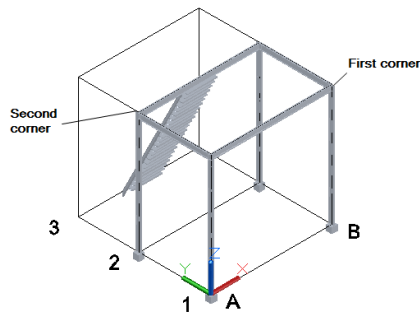
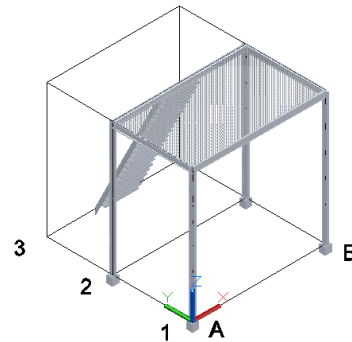

Figure 3-45 Selecting corner points to create a grating
Figure 3-46 Selecting corner points to create other grating
3. Select the corner points, as shown in Figure 3-45; a rectangular grating is created on the platform, as shown in Figure 3-46.